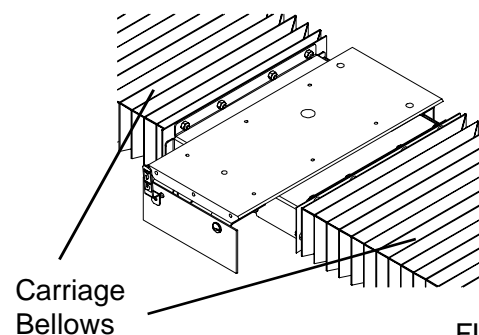

FIG. 14
2. Lift the optional traverse carriage bellows, (See FIG. 14) if used, thoroughly clean the traverse rails, flood spray with CRC 3-36 or an equivalent lubricant. Run the carriage back and forth through its full range of travel. With a clean rag, wipe off the excess lubricant. Run the carriage back and forth and wipe the rail after each pass. Repeat until the rail feels dry..